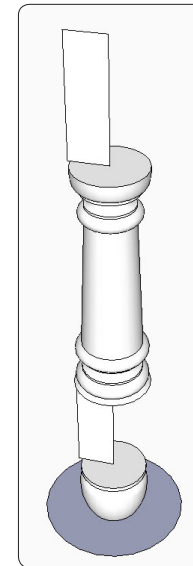

Figure 4. Create the turned sections, but leave the pommels as flat faces.
Step 2 Use the Follow Me Tool to create the turned sections of the leg. Leave the rectangular shapes of the pommel as flat faces, as shown in Figure 4.